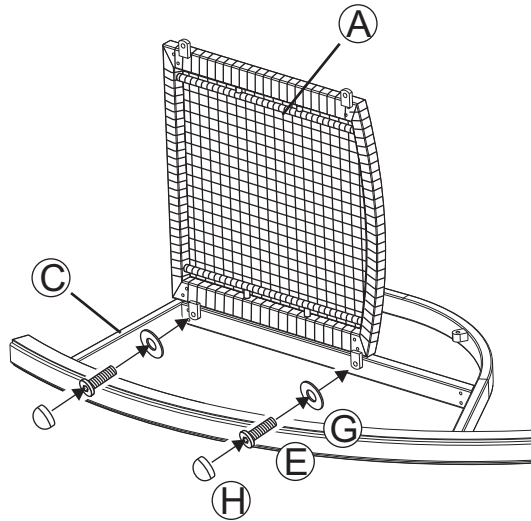
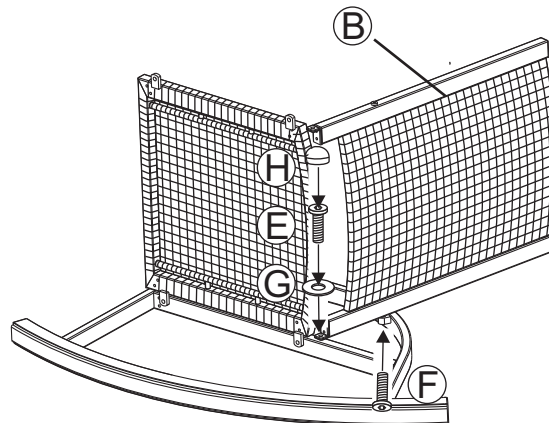

Figure 1
Figure 2
- 1 Attach the seat frame to the left leg by using two 1/4"x20 mm bolts and two washers as shown in the **Figure 1**. Guide the bolts through the holes in the seat frame into the pre-drilled holes in the left leg. **Hand tighten only 2-3 turns.**
- 2 Attach the back frame to the left leg by using a 1/4"x20 mm bolt, 1/4"x30 mm bolt and two washers as shown in the **Figure 2**. Guide the bolts through the holes in the back frame into the pre-drilled holes in the left leg. **Hand tighten only 2-3 turns.**
- 3 Repeat above process (fig.1 & fig.2) for the right leg as shown in the **Figure 3**.